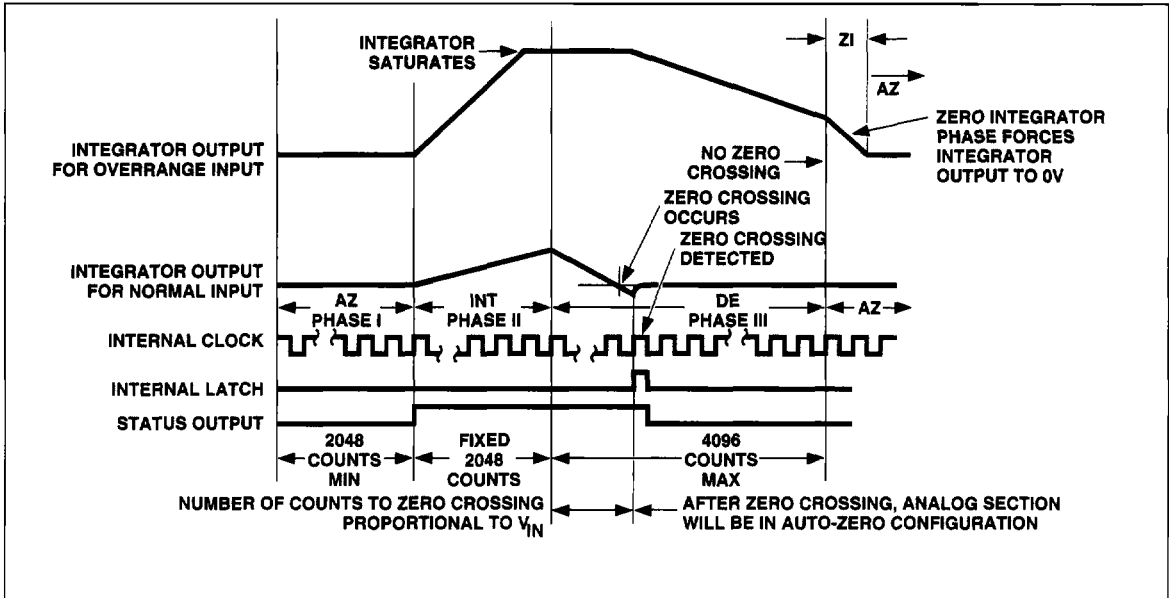

Figure 3. Conversion Timing (RUN/HOLD Pin High)
The functional diagram shows a block diagram of the analog section of the TC7109A. The circuit will perform conversions at a rate determined by the clock frequency (8192 clock periods per cycle), when the RUN/HOLD input is left open or connected to V⁺. Each measurement cycle is divided into four phases, as shown in Figure 3. They are: (1) Auto-Zero (AZ), (2) Signal Integrate (INT), (3) Reference Deintegrate (DE), and (4) Zero Integrator (ZI).
During ZI, the reference capacitor is charged to the reference voltage. The signal inputs are disconnected from the buffer and integrator. The comparator output is connected to the buffer input, causing the integrator output to be driven rapidly to 0V (Figure 3). The ZI phase only occurs following an overrange and lasts for a maximum of 1024 clock periods.
During a conversion cycle, the STATUS output goes HIGH at the beginning of signal integrate and goes LOW one-half clock period after new data from the conversion has been stored in the output latches (see Figure 3). The signal may be used as a "data valid" flag to drive interrupts, or for monitoring the status of the converter. (Data will not change while status is LOW.)
With the RUN/HOLD input high, or open, the circuit operates normally as a dual-slope ADC, as shown in Figure 3. Conversion cycles operate continuously with the output latches updated after zero crossing in the deintegrate mode. An internal pull-up resistor is provided to ensure a HIGH level with an open input.